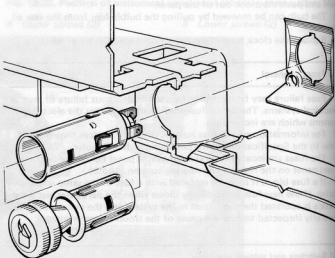

Fig. 10.37. Component parts of cigar lighter (Sec. 42)
- 1 The cigar lighter is retained in the lower instrument panel by means of a slotted plate (Fig. 10.37).